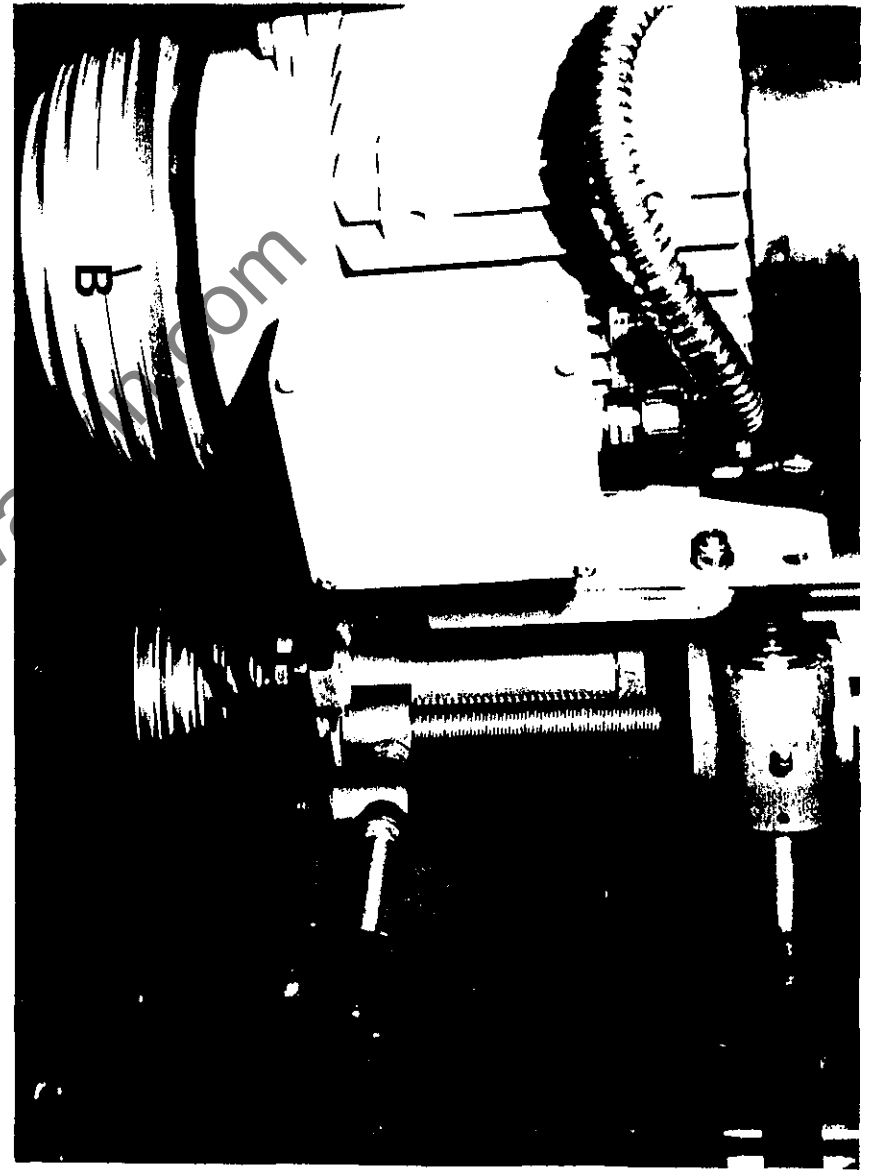

FIG.12
- c) Release belt tension on drive arrangement by pulling lever "A" FIG.12